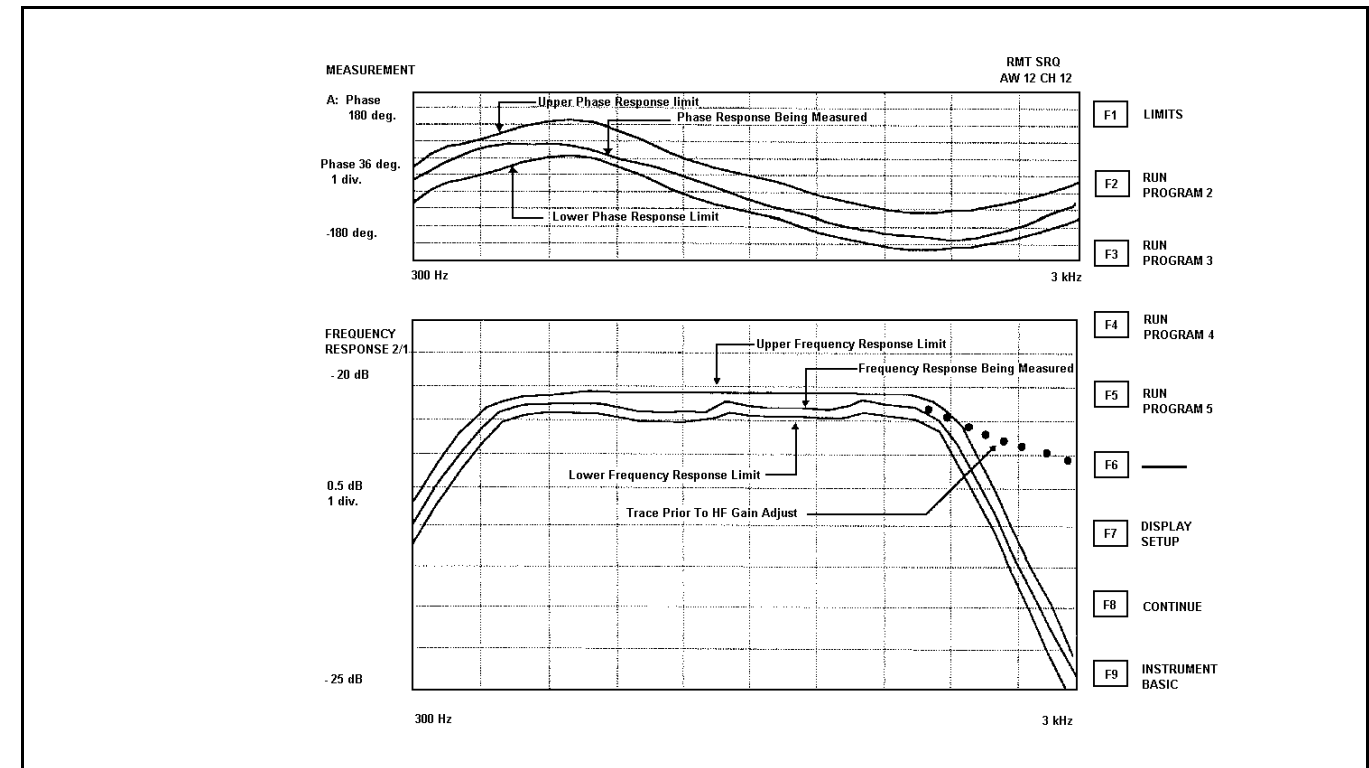

Figure 12 - Equalization Alignment Waveforms
A sweep may be restarted at any point by pressing START. Refer to Figure 12, Equalization Alignment Waveforms as needed during this procedure.
Start a sweep and observe the amplitude display (lower display). See Figure 12.
- Experience has shown improved performance by adjusting the equalizer HF GAIN counterclockwise 3 to 4 turns to force the 2600 to 3000 Hz trace to "roll off" more than normal. Compare to a trace run prior to adjusting HF AMPL. (Dotted line on Figure 12).